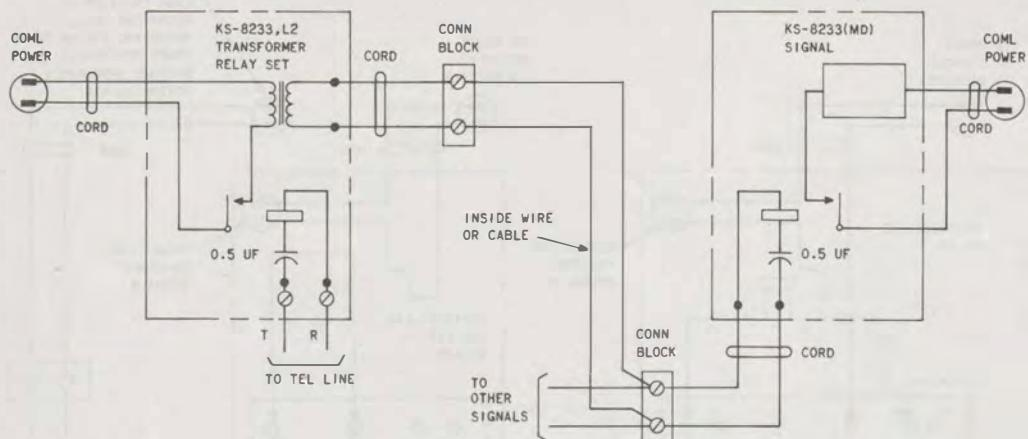

Fig. 26—KS-8233, List 2 Transformer Relay Connections
6.03 The KS-8233L2 transformer relay set has been used to connect several signals to one telephone line as shown in Fig. 26. This may be encountered in some existing installations.